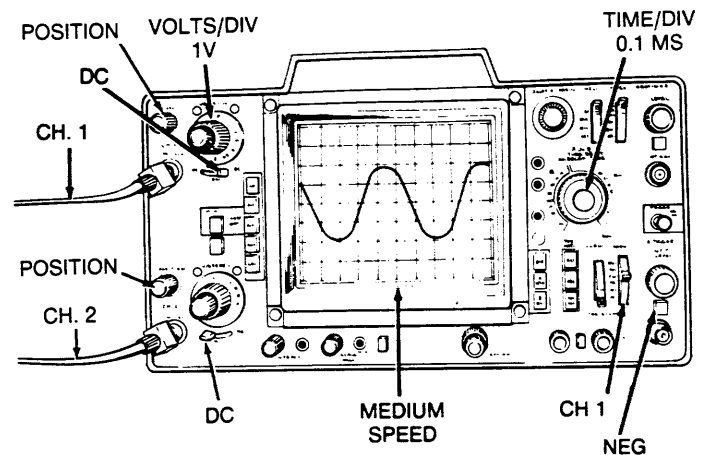

Figure 3-10.6C
- Set the Oscilloscope controls as shown in Figure 3-10.6C.